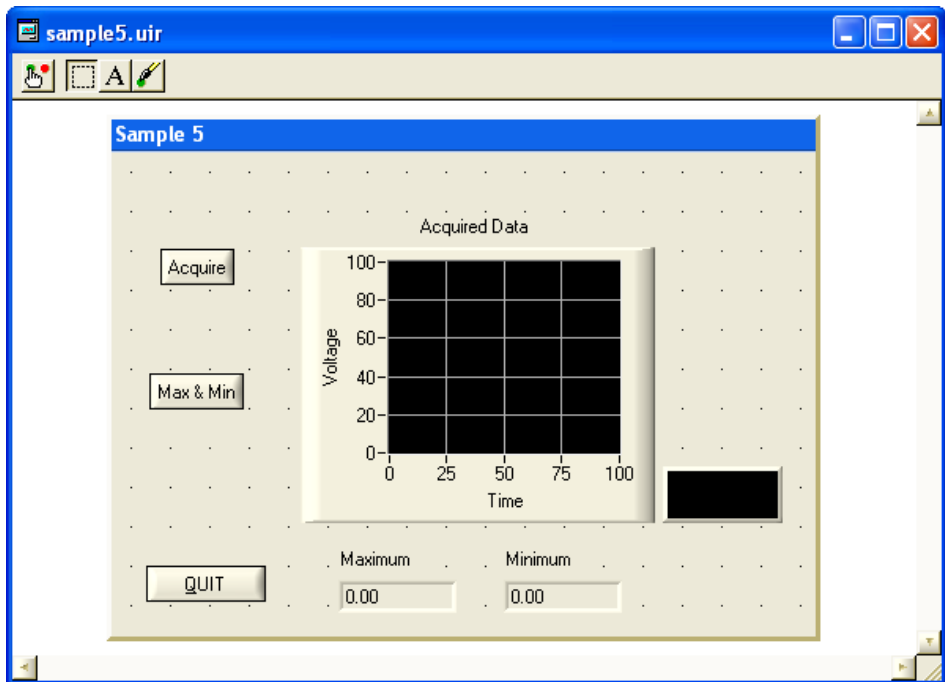

Figure 7-1. Sample User Interface
2. Without closing the `sample5.c` source code, open `sample5.uir`. Your goal is to modify the `.uir` to match the user interface shown in Figure 7-1.
10. Position the new controls on the user interface to match those shown in Figure 7-1.